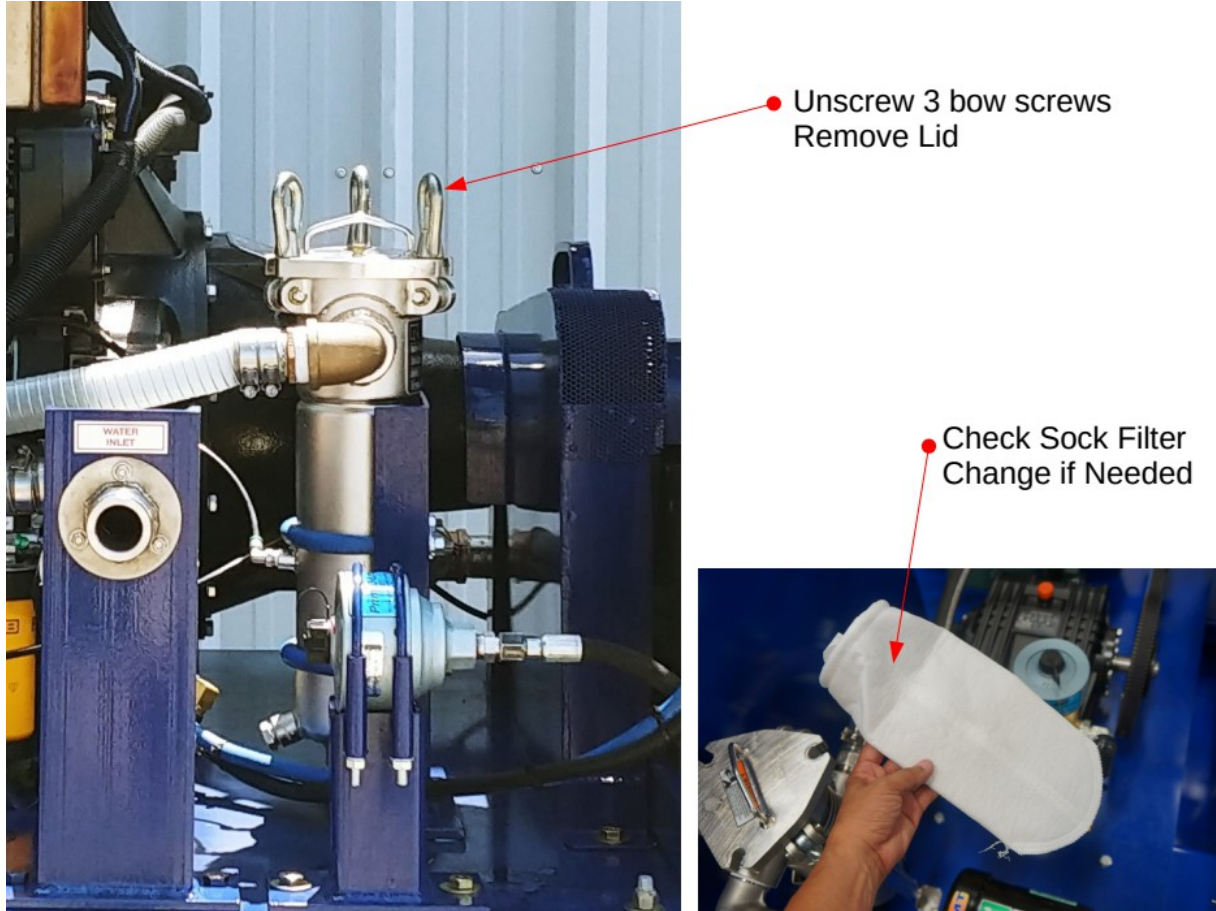

Figure 6.1 – Inspection / Cleaning Water Strainer
2. Inspect the inline filter cartridge to ensure that it is not clogged (See **Figure 6.1**). Clean or change cartridge if necessary.